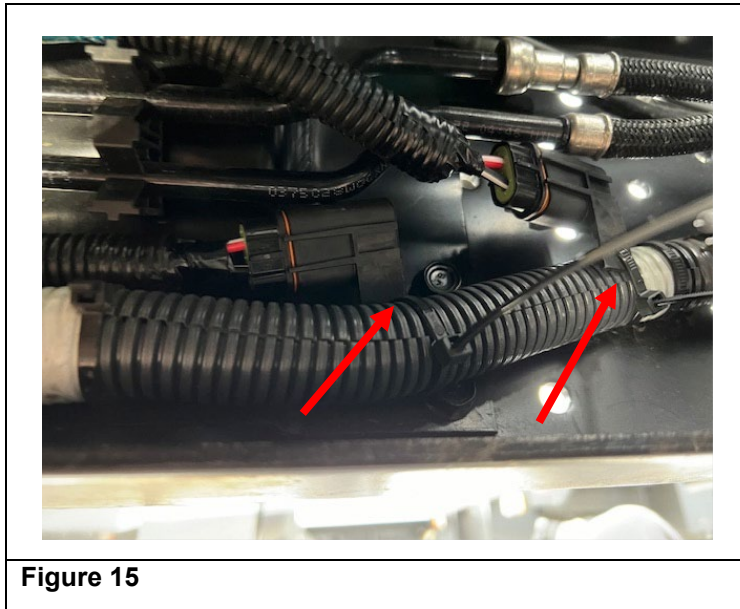

Figure 15
17. For **NQR/NRR ONLY** – Route both new replacement fuse conduits directly forward and secure each fuse holder with a wire tie to the chassis harness. (See Figure 15.)